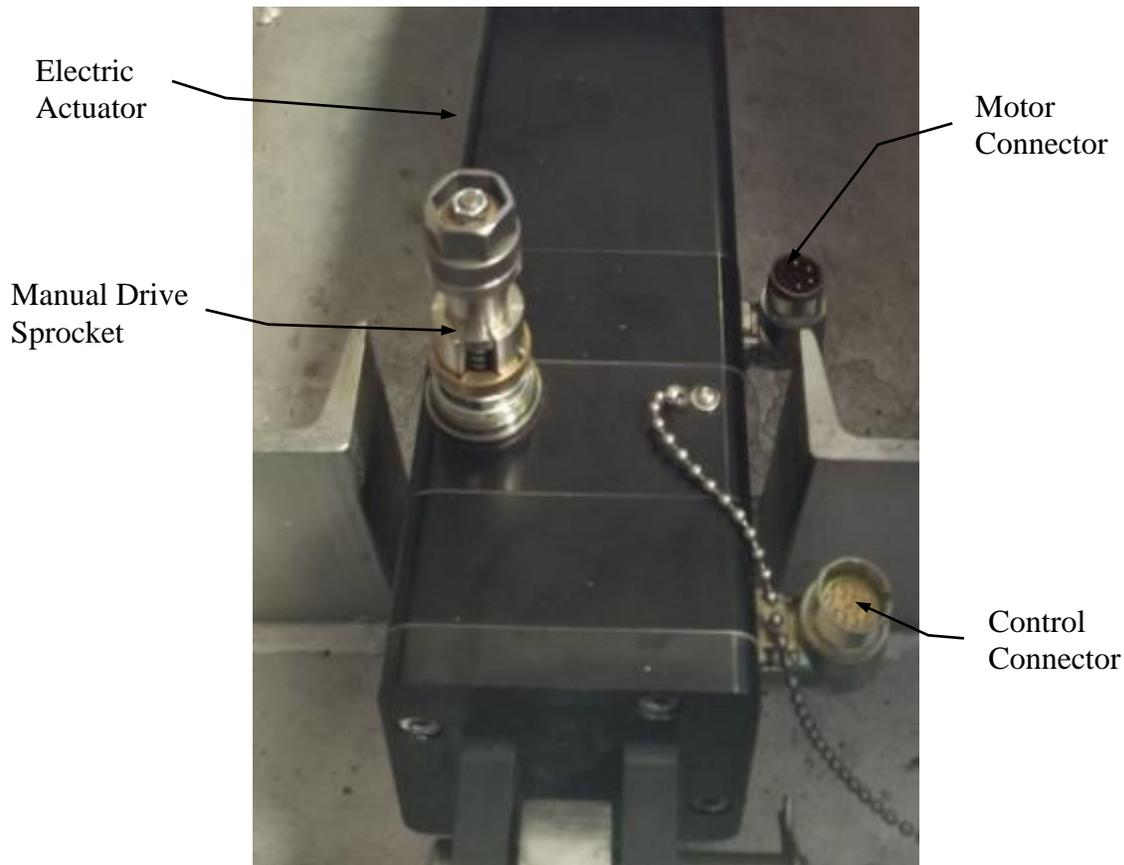

Figure 5 - Manual Drive Sprocket on 828E# series (Front looking towards back of barrier.)
- 3.5.1.7.** Attach a 15/16" socket to a battery powered drill. Use the drill to drive the manual drive sprocket **CLOCKWISE** to **DRIVE OPEN** the barrier or **COUNTERCLOCKWISE** to **RETRACT** the barrier. See **Figure 5 - Manual Drive Sprocket on 828E#** series. Alternatively, a speed wrench with a 15/16" socket may be used. Estimated time with the speed wrench is 10 minutes to drive the barrier fully open or closed.